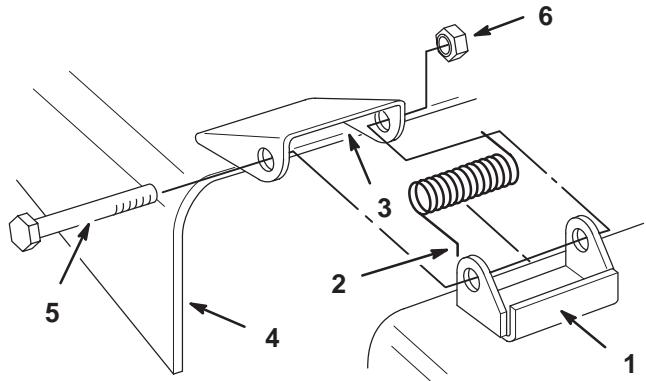

Figure 49
- Remove the locknut, bolt, and spring holding the deflector to the mower brackets (Fig. 49). Remove the damaged or worn grass deflector.
- Place the springs into the brackets on the mower with the hooked ends over the raised back (Fig. 49).
- Align the grass deflector with the holes in the brackets and the spring straight ends in the space under the hinge and above the deflector (Fig. 49).